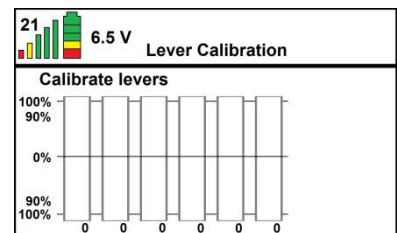

Figure: 18
- Press the ✓ button and you will be taken to the **calibrate levers** screen. You see a bar for each lever. When you operate a lever the bar turns green. In the maximum position the bar must be 100% green. If not, the levers must be calibrated (see figure 18).